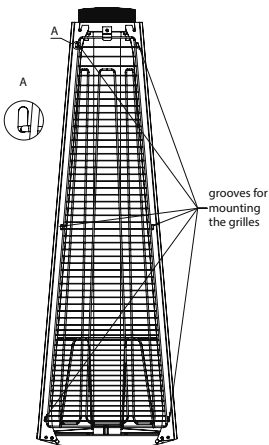

Fig.13 - Grille installation
- Install the grilles into the grooves of the upper profiles (Fig. 13);